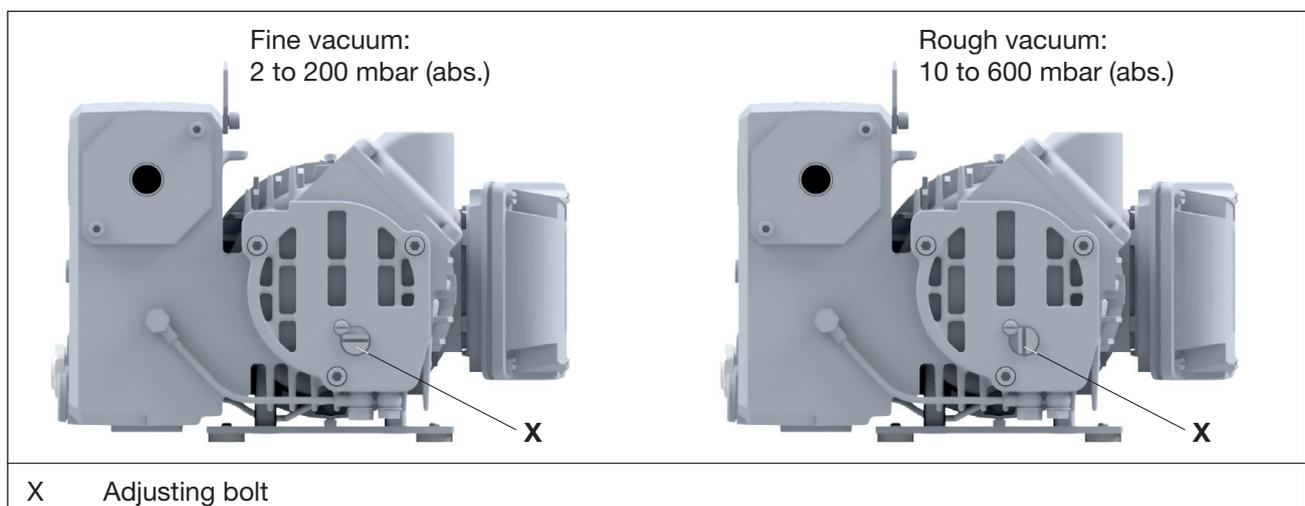

Fig. 5 Setting the operating range
- Turn the adjusting bolt (Fig. 5/X) clockwise until it reaches the end position (fine vacuum) or counter-clockwisely (rough vacuum).